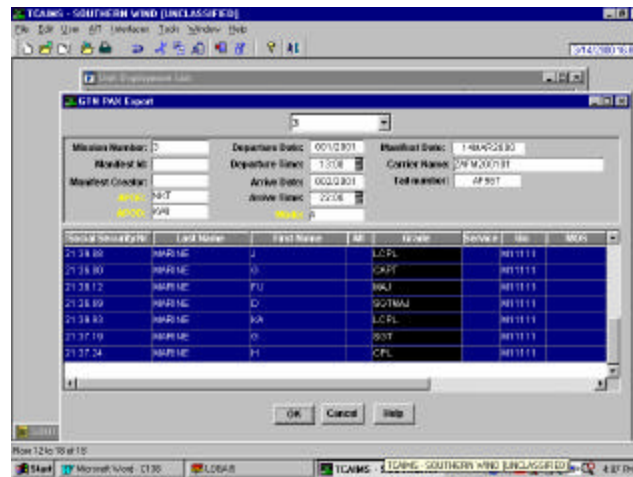

Figure 9
STEP 16. Validate the information in the GTN PAX Export box and select **OK** (see figure 9).